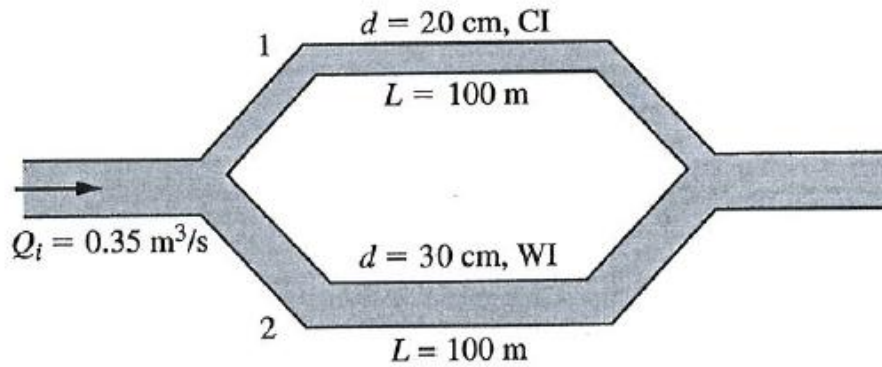

Figure 4
- (b) Two pipes are laid in parallel as shown in **Figure 4**. All pipe characteristics and dimensions are also shown in **Figure 4**. If the total discharge is $0.35 \text{ m}^3/\text{s}$ and the water temperature is 25°C , determine the discharge in each line.